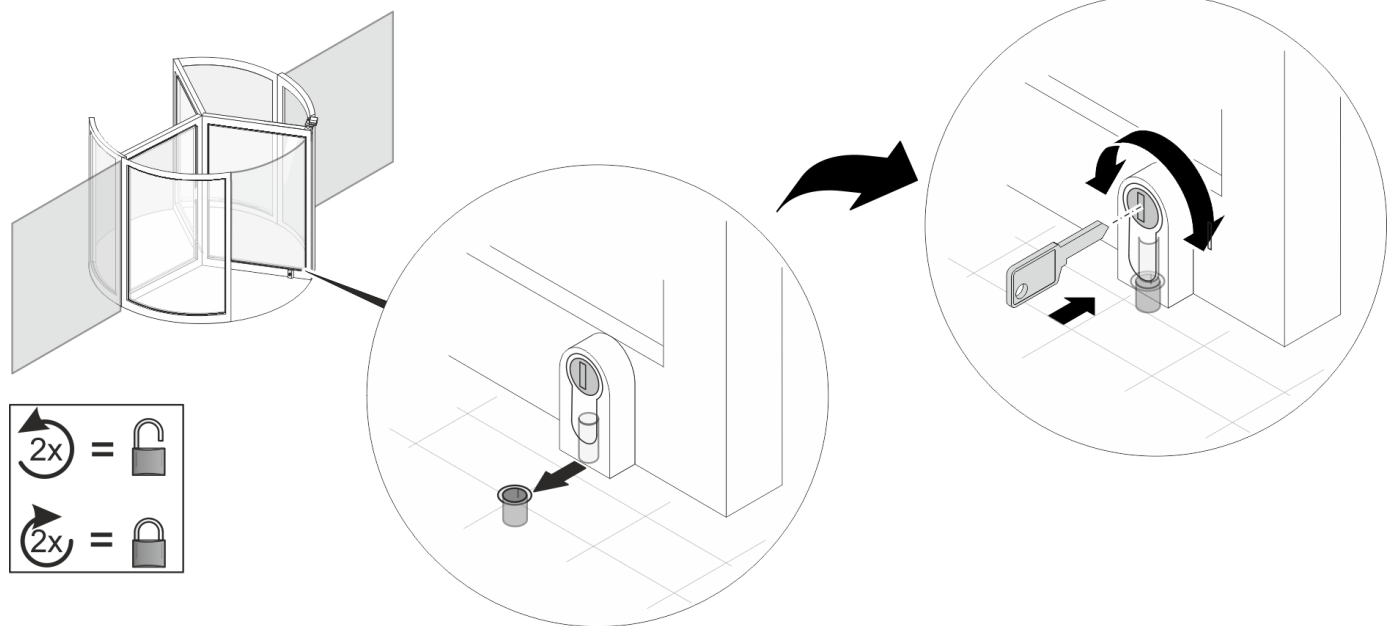

Fig. 6 Floor locking device
1. Align the door wing with floor locking device with the floor sleeve in the floor. (Fig. 6/middle).
2. Lock the floor locking device on the door wing with key. For this purpose lock the locking cylinder (Fig. 6/ right) with two full revolutions.
1. Unlock floor locking device at the door wing with the key. For this purpose unlock the locking cylinder (Fig. 6) with two full revolutions.